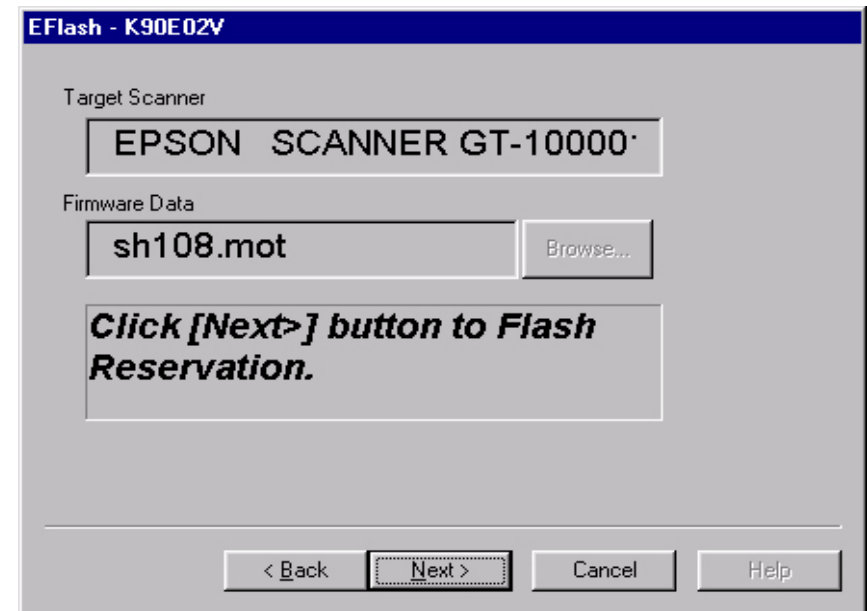

Figure 5-6.
10. 1). In Figure 5-6, confirm the version of writing firmware. Name of the scanner and the current version of ROM are shown at "Target Scanner", and the latest version of firmware data is shown right below.